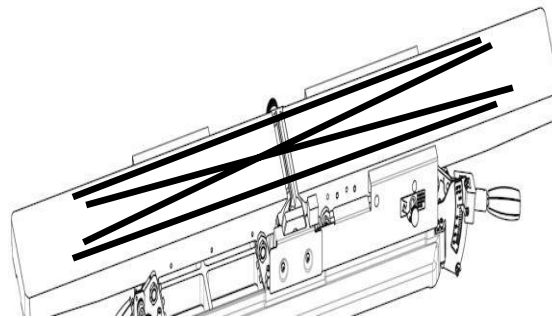

Figure 36: Checking tables for alignment
STEP 4: Place a straight edge across the tables in positions as shown in **FIG. 36**. In each position, the straight edge should rest flat and fit flush with both infeed and outfeed tables (not on an insert knife). If it does not, follow the steps in Outfeed Table and Infeed Table adjustments.